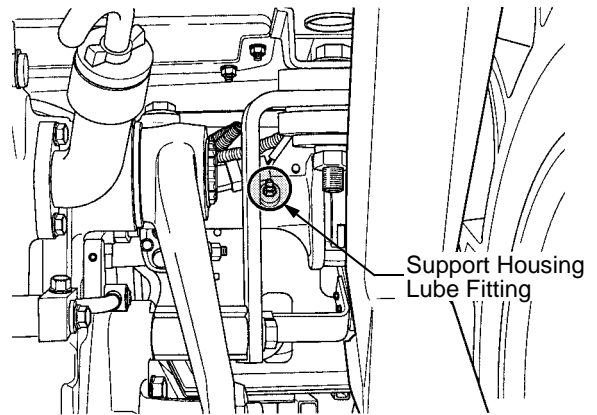

Figure 73
- Position lever support housing. See Figure 73.